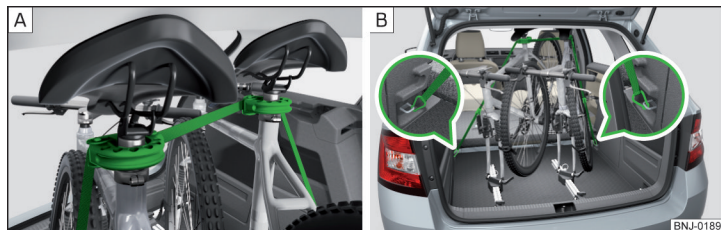

Fig. 122 Ensure the stability of the bicycles with a belt
- › When transporting two bicycles, stretch the belt » Fig. 122 - **A** between the saddles by moving the bicycles apart.
- › Hook the carabiners on the ends of the belt into the lower lashing eyelets behind the rear seats » Fig. 122 - **B**.